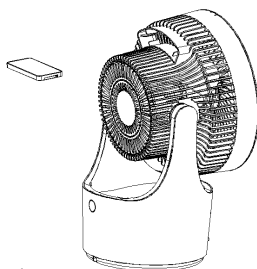

Fig. 1
- This fan doesn't need assemble. Handle in the rear housing can not only be used to lift fan up but also to place remote controller. (See figure 1)